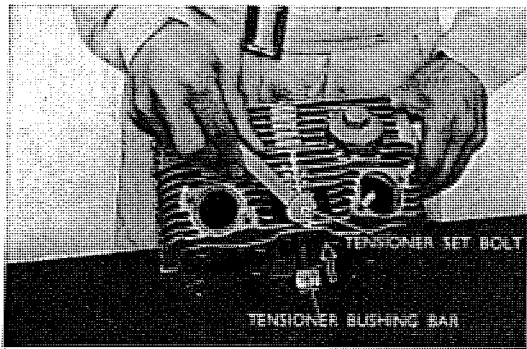

Fig. 3.111 Tightener push bar fully inserted
2. The tightener push bar should be inserted together with the tightener spring fully into the cylinder and tightened by the tightener bolt. If the tightener push bar protrudes excessively, the cam chain is stretched and joining of the chain becomes difficult. (Refer to Fig. 3.111)